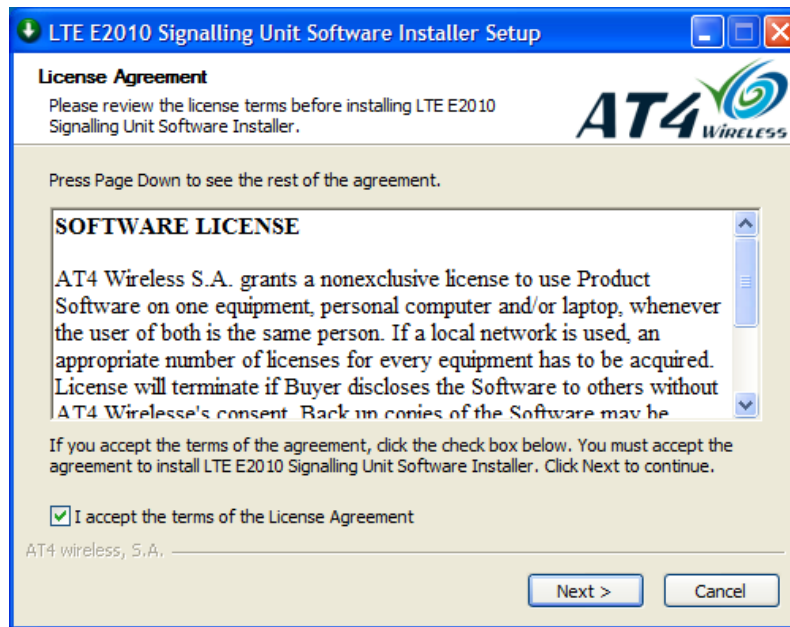

Figure 2-32: E2010 Software License Agreement Window
2. In *License Agreement* window, select **I accept the terms of the license agreement** and click the **Next** button, as shown in Figure 2-32.